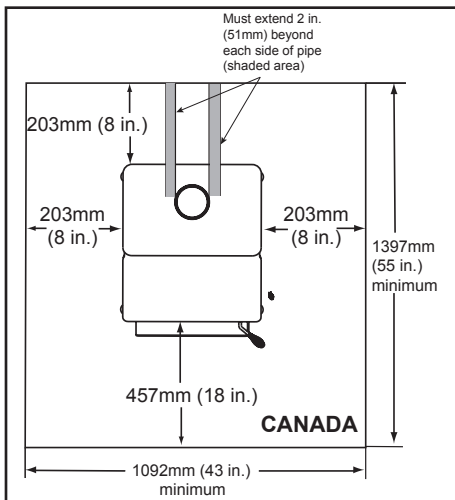

Figure 10.2
In Canada, similar floor protection must be provided 18 inches (457mm) in front and 8 inches (203mm) from the sides and rear of the appliance. **Figure 10.2 *See exception.**
***EXCEPTION:** Non-combustible floor protector must extend beneath the flue pipe when installed with horizontal venting and extend 2 inches (51mm) beyond each side. **See Figure 10.2**